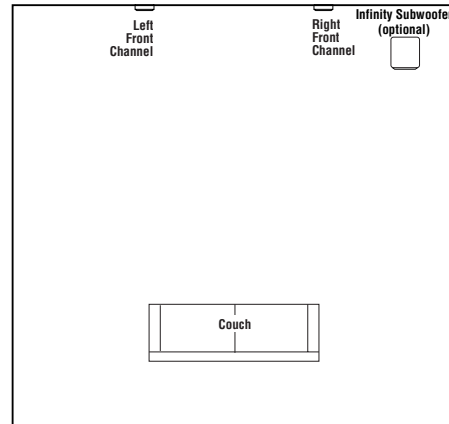

Figure 1.
Before deciding where to best place your speakers, survey your room and study Figures 1 and 2.
**NOTE:** Figures 1 and 2 show recommended speaker locations. You may also follow these general placement suggestions when installing the speakers in the ceiling.
Before deciding where to place your CS Series speakers, survey your room and think about placement, keeping the following points in mind, and using Figure 1 as a guide: